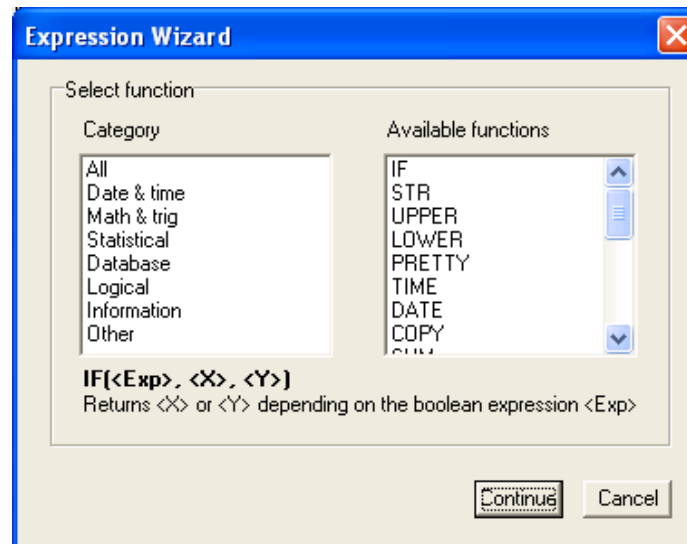

Figure 29 - Select Function Window
10. Click on the **Function** button to go to the **Select function** (Figure 29) window. After selecting the required function, click on the **Continue** button to close the **Select function** window and return to the **Expression Wizard**.